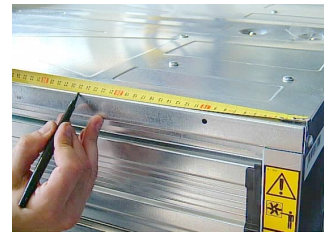

Figure 4
3. Measure the right distance from the sidewall of the fan, and mark the spot. For a FI50 measure 248mm; for a FI36 measure 198mm; for a FI30 measure 171mm; and, for a FI24 measure 136mm. Do the same for all four locations as indicated in Figure 4.